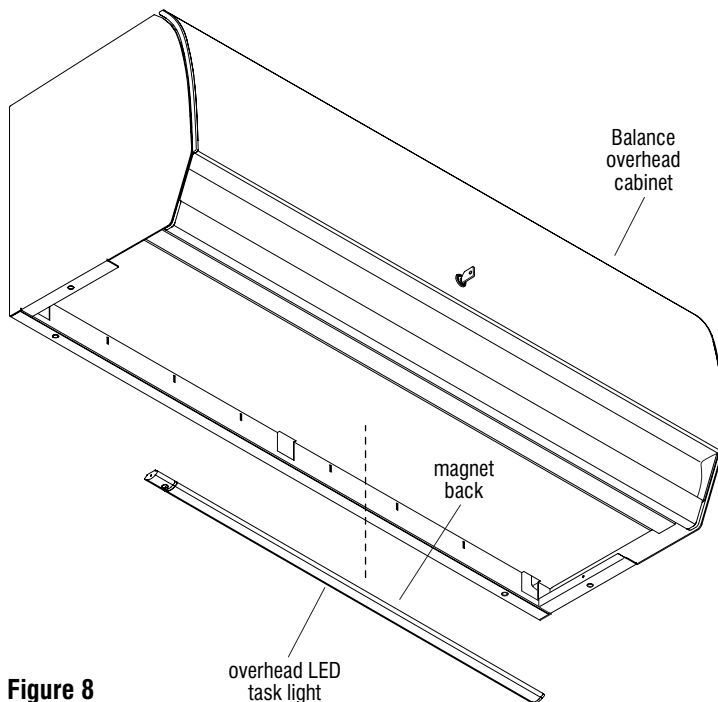

Figure 8
1. Position the overhead LED task light underneath the overhead cabinet at the desired location and allow the task light to magnetically attach to the bottom of the cabinet (Figure 8).